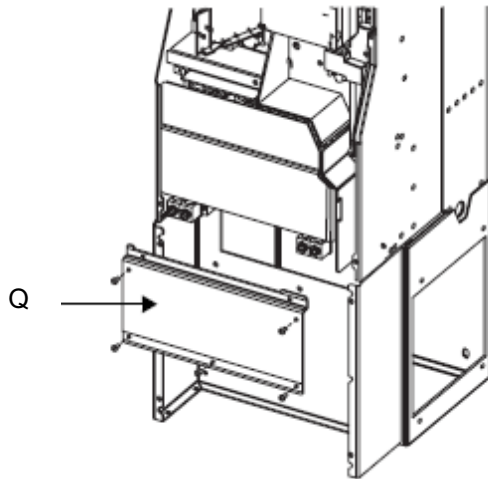

Figure 14
Step6: Mount the EMC plate1 (Q) into both the conduit box (P) and the inverter with M6 screws. See figure 14.